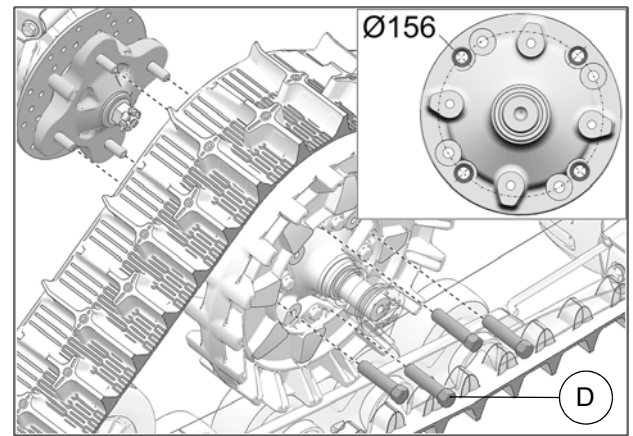

Fig. 17
- Secure undercarriage to front hub using the provided M12 lug nuts (**D**). Use bolt circle **Ø156mm**. See Fig. 17